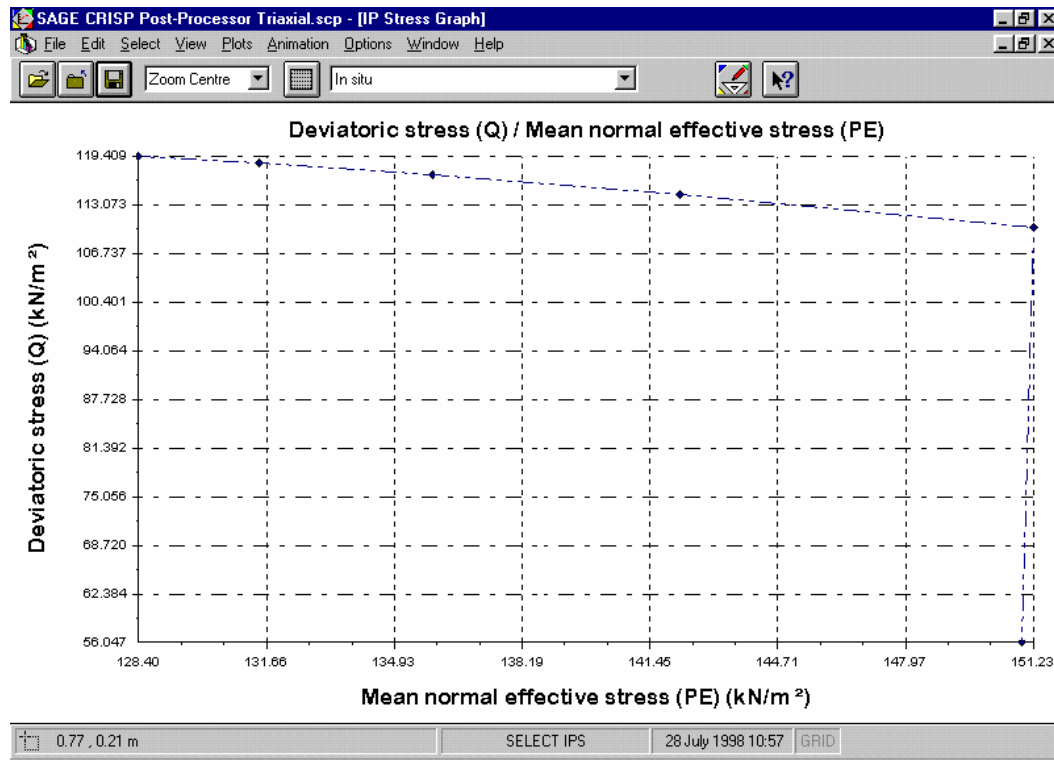

Figure 3-20::Integration Point Stress Graph
Step 6 Click on **OK** to exit once you have finished. The graph displayed should look similar to Figure 3-20. You can configure the way the graph looks (axis labels, titles and legend) by double-clicking on the graph window and changing the set-up in the Graph Configuration dialogue box.